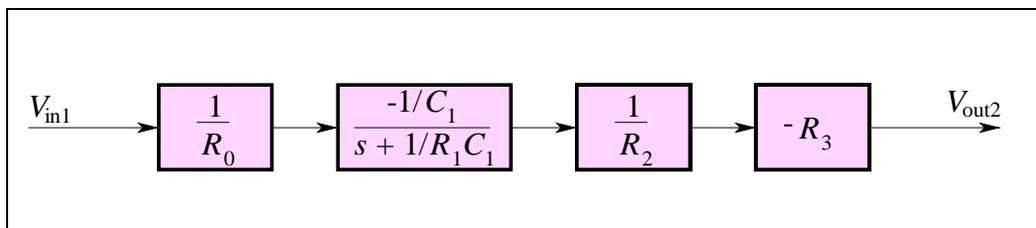

Figure L3.2
2. By comparing the transfer function of the system in Figure L3.2 with the standard form of a first-order lowpass transfer function,